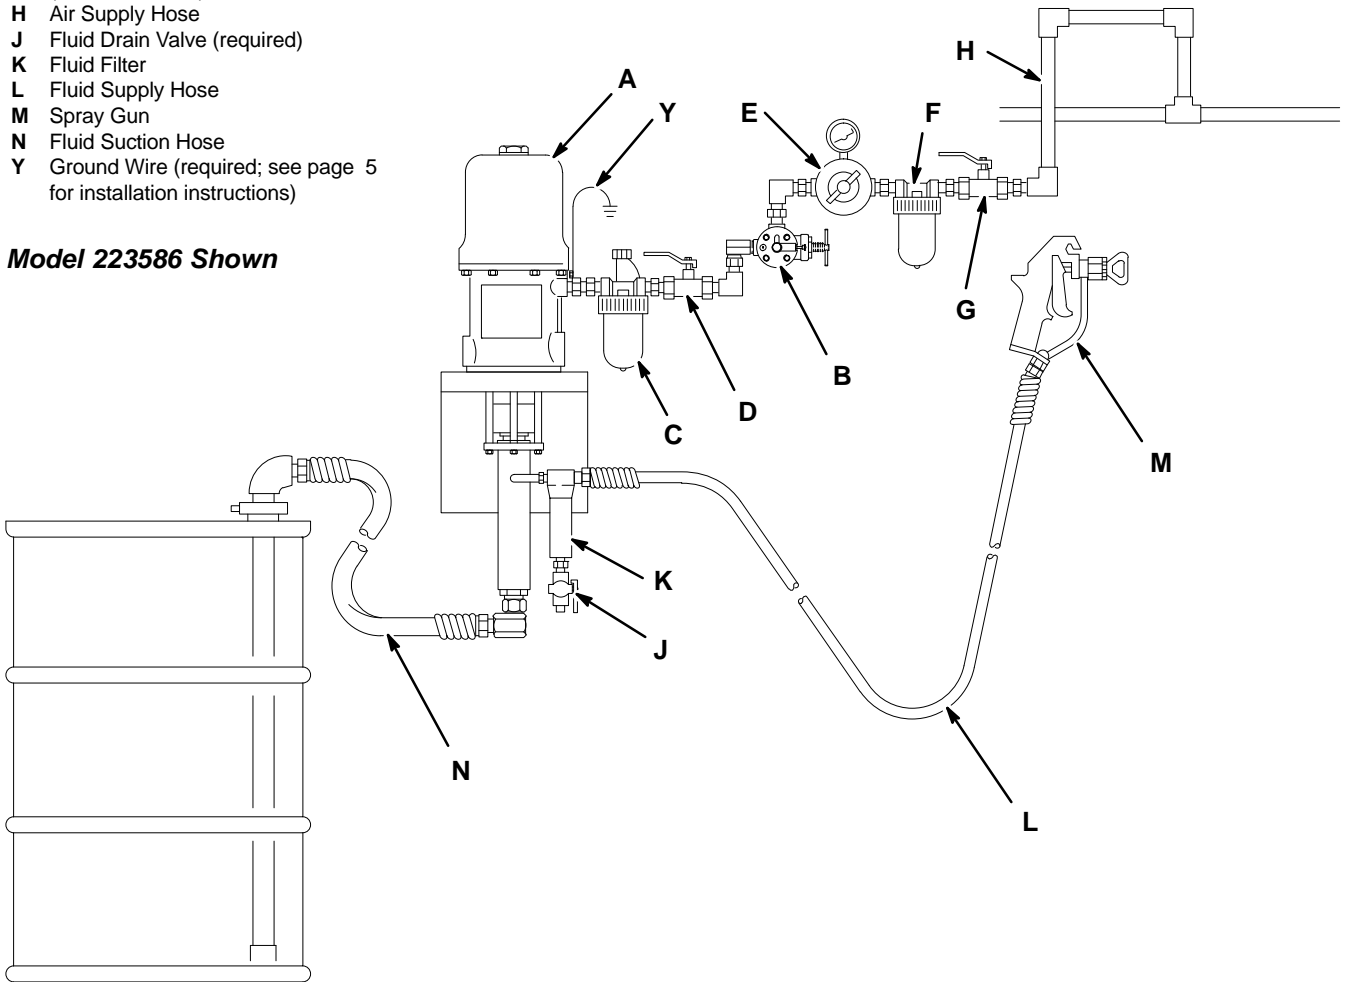

Fig. 2
Fig. 2 is only a guide for selecting and installing system components and accessories. Contact your Graco distributor for assistance in designing a system to suit your particular needs.
Refer to the Typical Installation drawing (Fig. 2).
Install the following accessories in the order shown in Fig. 2, using adapters as necessary:
Install the following accessories in the positions shown in Fig. 2, using adapters as necessary:
- **A fluid drain valve (J)** is required in your system to relieve fluid pressure in the hose and gun (see the **WARNING** at left). Install the drain valve pointing down, but so the handle points up when the valve is opened.
- **A fluid filter (K)** filters harmful particles from the fluid.
- **A spray gun (M)** dispenses the fluid. The gun shown in Fig. 2 is an airless spray gun.
2. Close the bleed-type master air valve (D, required in your system). See Fig. 2.
See Fig. 2 on page 7. Be sure the air regulator (E) and bleed-type master air valve (D) are closed. **Do not install the spray tip yet!**
A pump runaway valve (B), which shuts off the air supply to the pump if the pump accelerates beyond the pre-set speed, is available. See Fig. 2 on page 7. Contact your Graco distributor for further information.